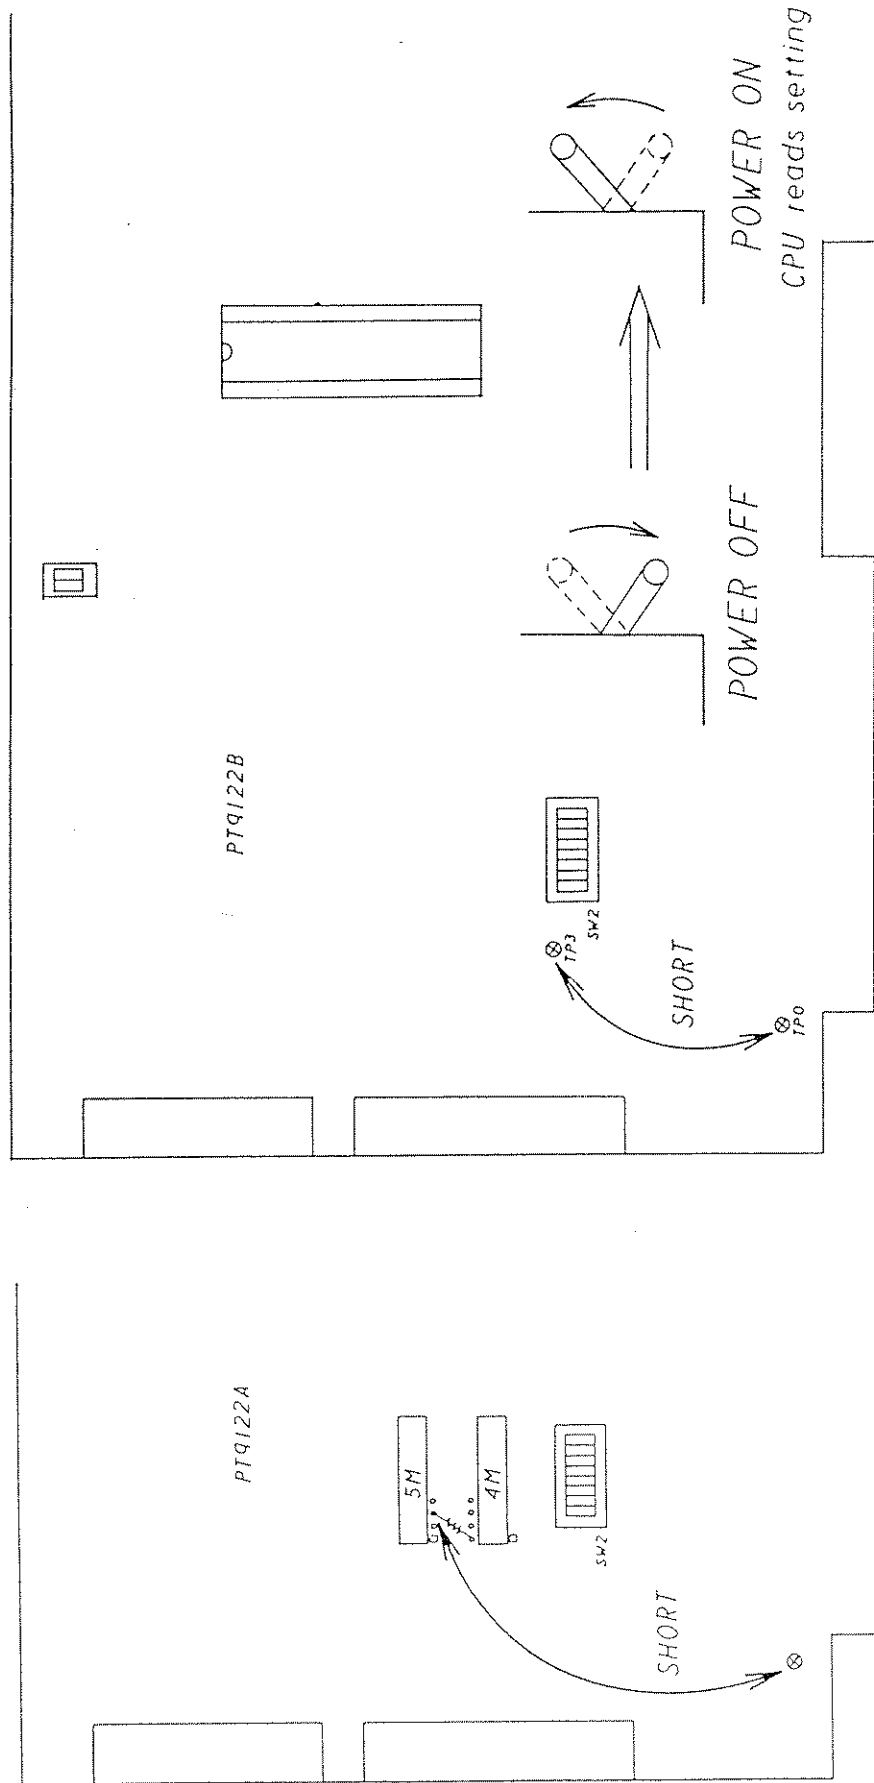

Figure 6.5a How to Detach Software Check Routine
(1) Op-amp (5B)
(2) Op-amp (6B)
- Disconnect the connector P1 (VC) on the board and connect P2 (IC).
- Detach the software check routine by referring to Figure 6.5a. The MPU board (PT9122) is installed in the 9302-LV. The initial setting of the CPU is executed by turning off the power supply once and turn it on.
(1) Gain offset adjustment when the S/H amplifier is in a sample state